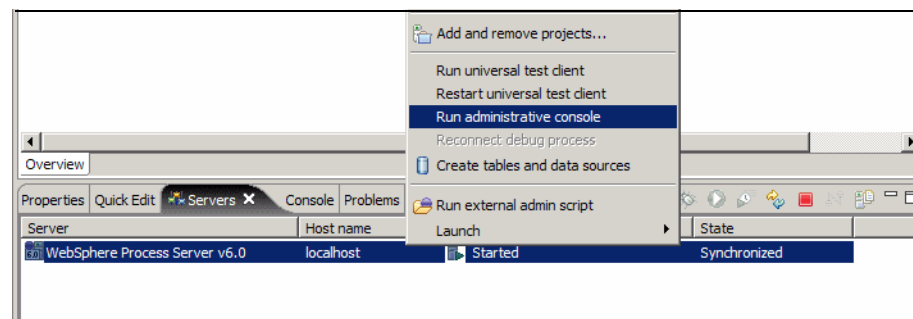

Figure 9-6 Start administrative console
- ▶ Start the administrative console by selecting the server and *Run administrative console* (context menu, Figure 9-6).